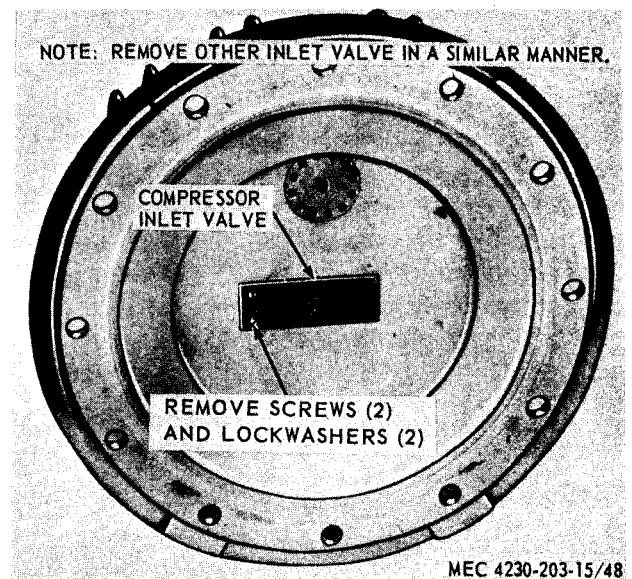

Figure 4-35. Compressor inlet valve removal and installation.
- (1) Remove the compressor heads (para 4-36).
- (2) Refer to figure 4-35 and remove the compressor inlet valve.
- (1) Refer to figure 4-35 and install the compressor inlet valve.
- (2) Install the compressor heads (para 4-36).